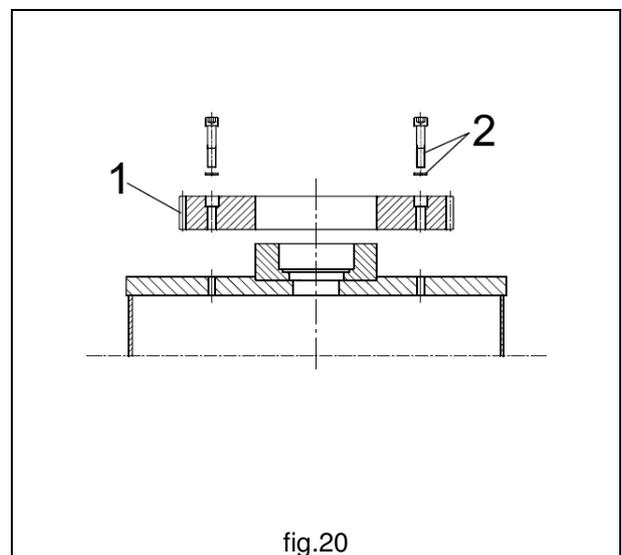

fig.20
8. For the powered version, place the Crown gear **1** on the top of the column by fixing it through screws and spring washers **2** with a torque tightening of 220 Nm (fig.20)